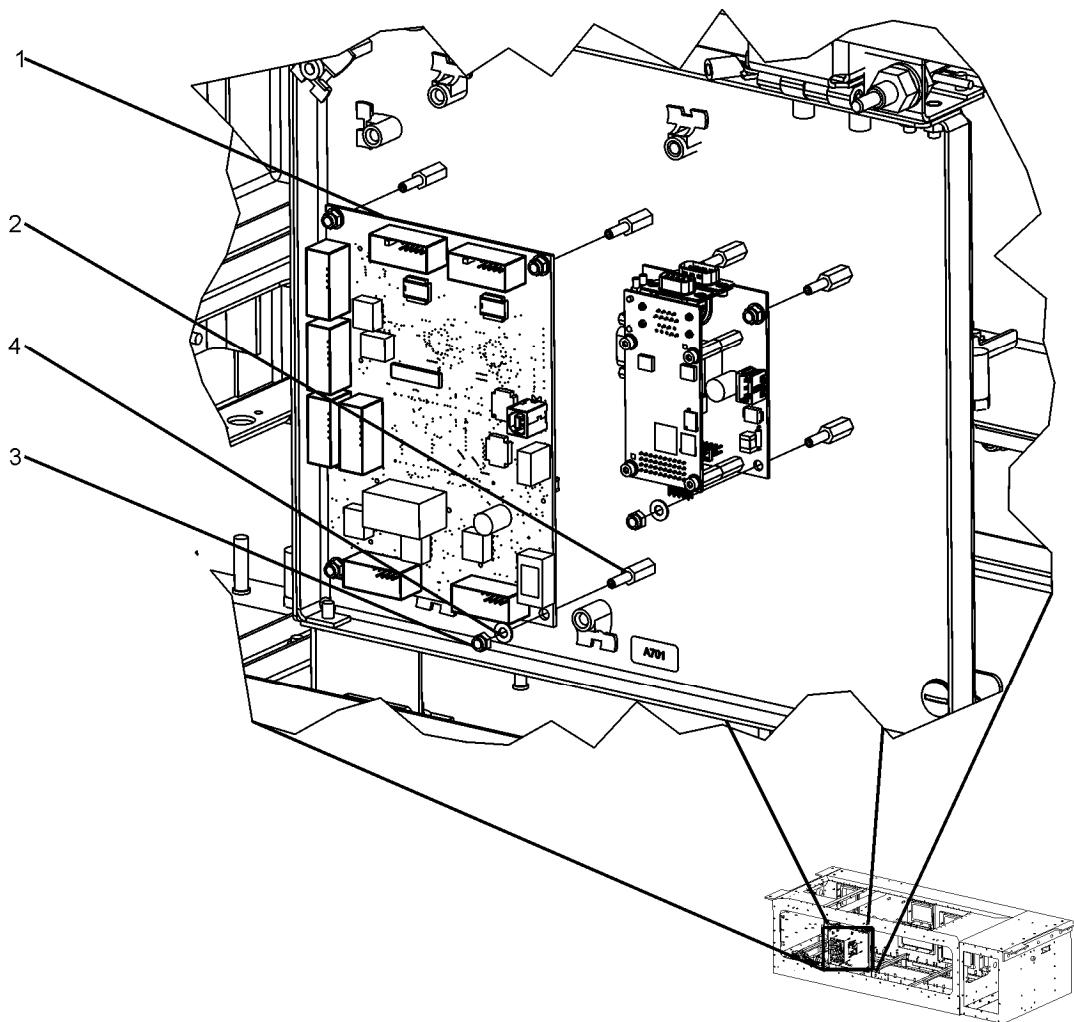

Figure 5-44: A701 Anchor Points
6. Detach A701 (see Figure 5-44). A701 (1) is mounted atop four setscrews (2) and is held in place with M4 locking nut (3) and M4 washer (4) sets. Remove the fasteners to detach the A701.
2. Insert A701 (see Figure 5-44). Place the board with the plugs labeled X6 and X7 on the top facing outward.
3. Attach A701 (see Figure 5-44). A701 (1) is mounted atop four setscrews (2) and is held in place with M4 locking nut (3) and M4 washer (4) sets. Affix the fasteners and tighten to 22 lb-in (2.5 Nm).